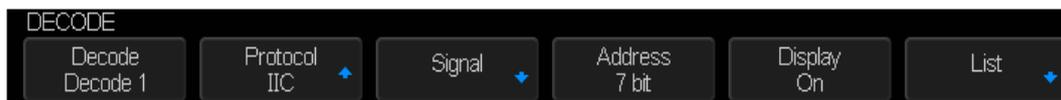

Figure 34 IIC SINGAL Menu
1. Press **Decode** key to enter the **DECODE** function menu as Figure 34 shows.